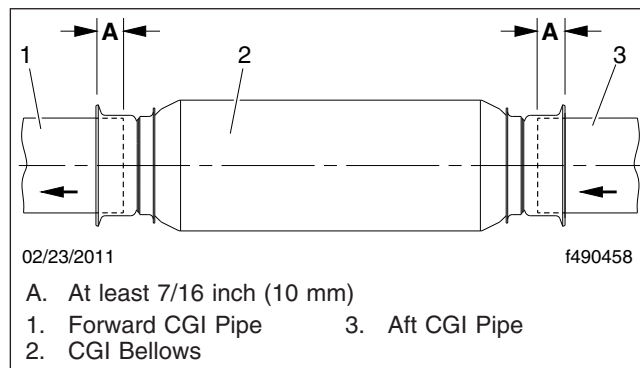

Fig. 11, CGI Bellows Installation
- 12. Slide the new bellows onto the aft CGI pipe as far as it will go. See Fig. 11, Ref. A. Measurement A should be at least 7/16 inch (10 mm) past the face of the flange.
16. Using the yellow marks, center the bellows between the exhaust pipes. Verify that the pipe is inserted at least 7/16 inch (10 mm) past the face of the flange. See Fig. 11, Ref. A.